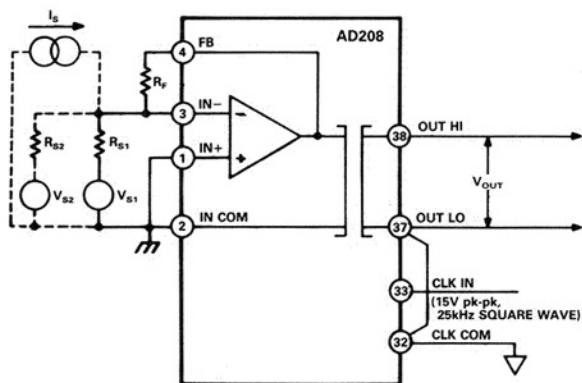

**Figure 31. Open Loop Gain and Phase Response for the Uncommitted Input Op Amp of the AD208**
**Compensating the Uncommitted Input Op Amp.** The open loop gain and phase versus frequency for the uncommitted input op amp is given in Figure 31. These curves can be used to determine the appropriate values for the feedback resistor and compensation capacitor in order to ensure frequency stability when reactive or nonlinear components are used in conjunction with the uncommitted input op amp.